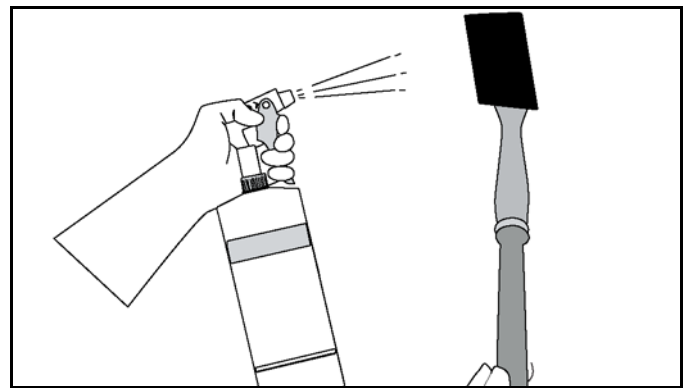

Figure-126
34. Once the lower plate is raised, spray the multi-use tool pad with grill cleaner and repeat until the sides are fully covered. See Figure-126.